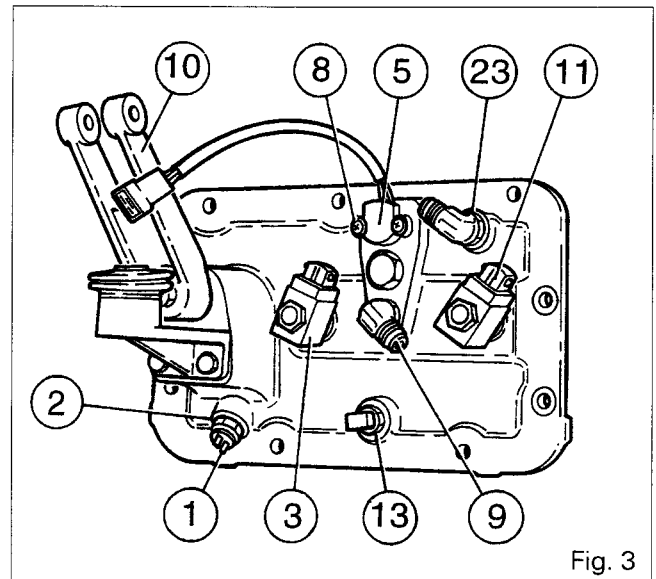

Fig. 3
21. Remove the bolts (8). Remove the position sensor (5) and its seal. Remove the solenoid valves (3) and (11), and the couplings (9) and (23). Dismantle the Hare/Tortoise contactor (1) and remove the seals (2) and temperature probe (13) (if fitted) (Fig. 3).
22. If necessary, remove the retaining ring (22). Remove link (20) and the seal (21). Remove link (10) (Fig. 3).